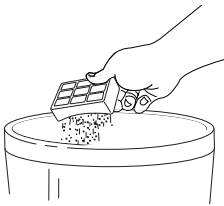

Fig. 22
- 3 Turn the filter over so that the dirty side is on the bottom and vigorously tap it clean against a garbage can to remove any dust. **(Fig. 22)**